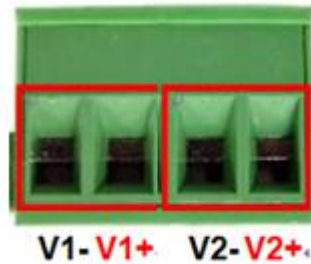

Figure 2.11
1. Insert the positive and negative wires into the PWR1 (V1+, V1-) and PWR2 (V2+, V2-) contacts on the terminal block connector as shown below in *Figure 2.11*.